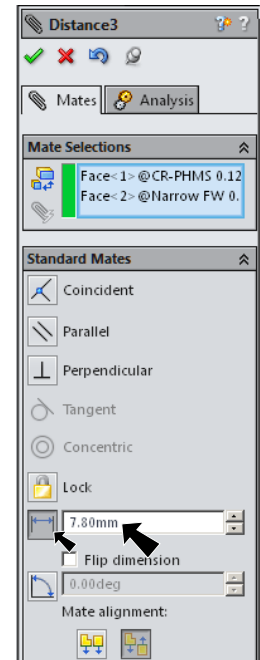

Fig. 20
Step 3. In the Mate Property Manager, **Fig. 20**